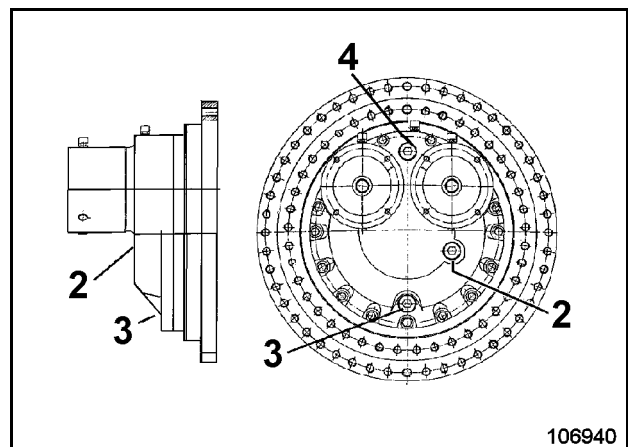

Fig. 3-87:
- Unscrew drain plug (3, Fig. 3-87:) and drain off the oil completely.